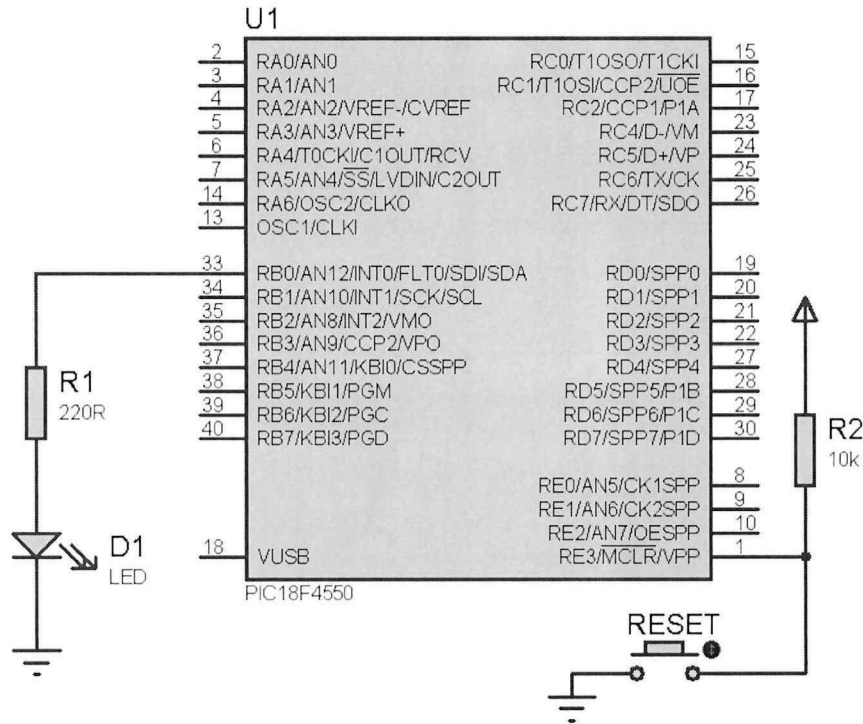

Figure Q1(d)
- (d) If the PIC 18F4550 is connected to a LED as shown in **Figure Q1(d)**. Write a simple program to blink the LED every 2s (1s ON, 1s OFF) using specifications as in question **Q1(b)**. (7 marks)